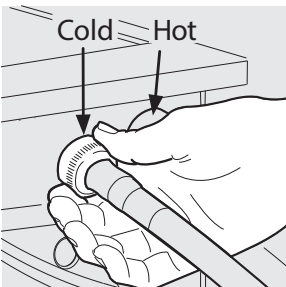

Fig. 3
3. Connect the HOT inlet hose (color: red) to the HOT inlet connection on the washer and the COLD inlet hose to the COLD inlet connection (color: blue) on the washer. (Fig. 3).